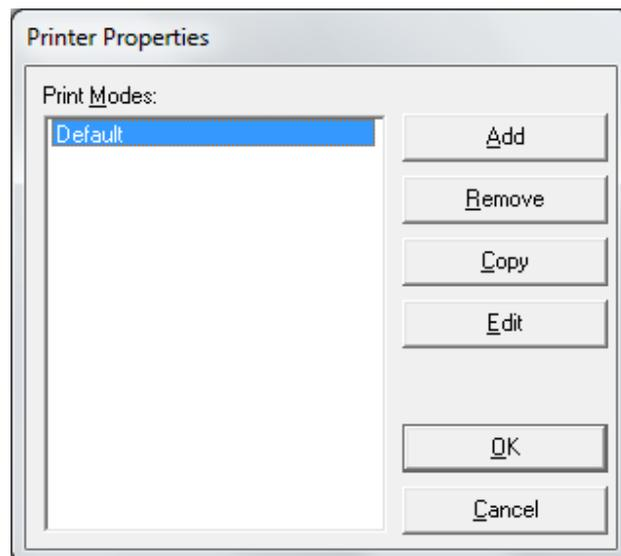

Fig 3-9
2. Click [Properties] to open Printer Properties (Fig 3-9).